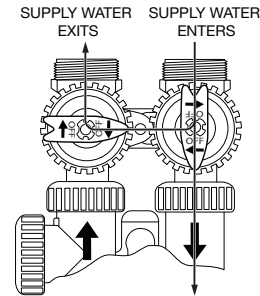

Figure 5: Diagnostic Operation
- **Diagnostic Operation Position:** When the inlet handle points in the direction of water flow and the outlet handle points to the center of bypass valve, filter water pressure is allowed to the control valve and the plumbing system while not allowing water to exit from the control valve to the plumbing. (Refer to Figure 5).